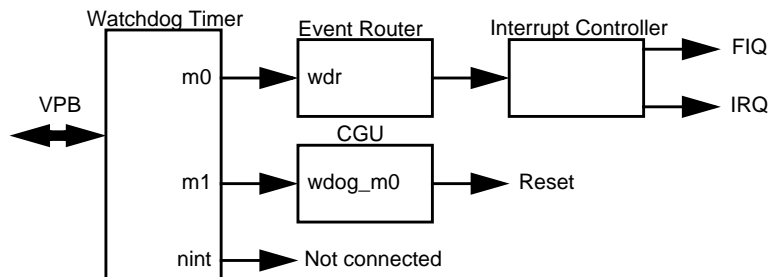

Fig.33 Watchdog timer in PNX0101
Fig.33 on page 276 shows how the Watchdog Timer is located in the PNX0101. The interrupt pin (nint) of this Watchdog Timer is not connected to the Interrupt Controller. Instead of this, two pins m0 and m1 (see Fig.33 on page 276) are used which will generate events. Pins m0 and m1 will generate events when their Match Registers matches the Timer Counter Register (TC).